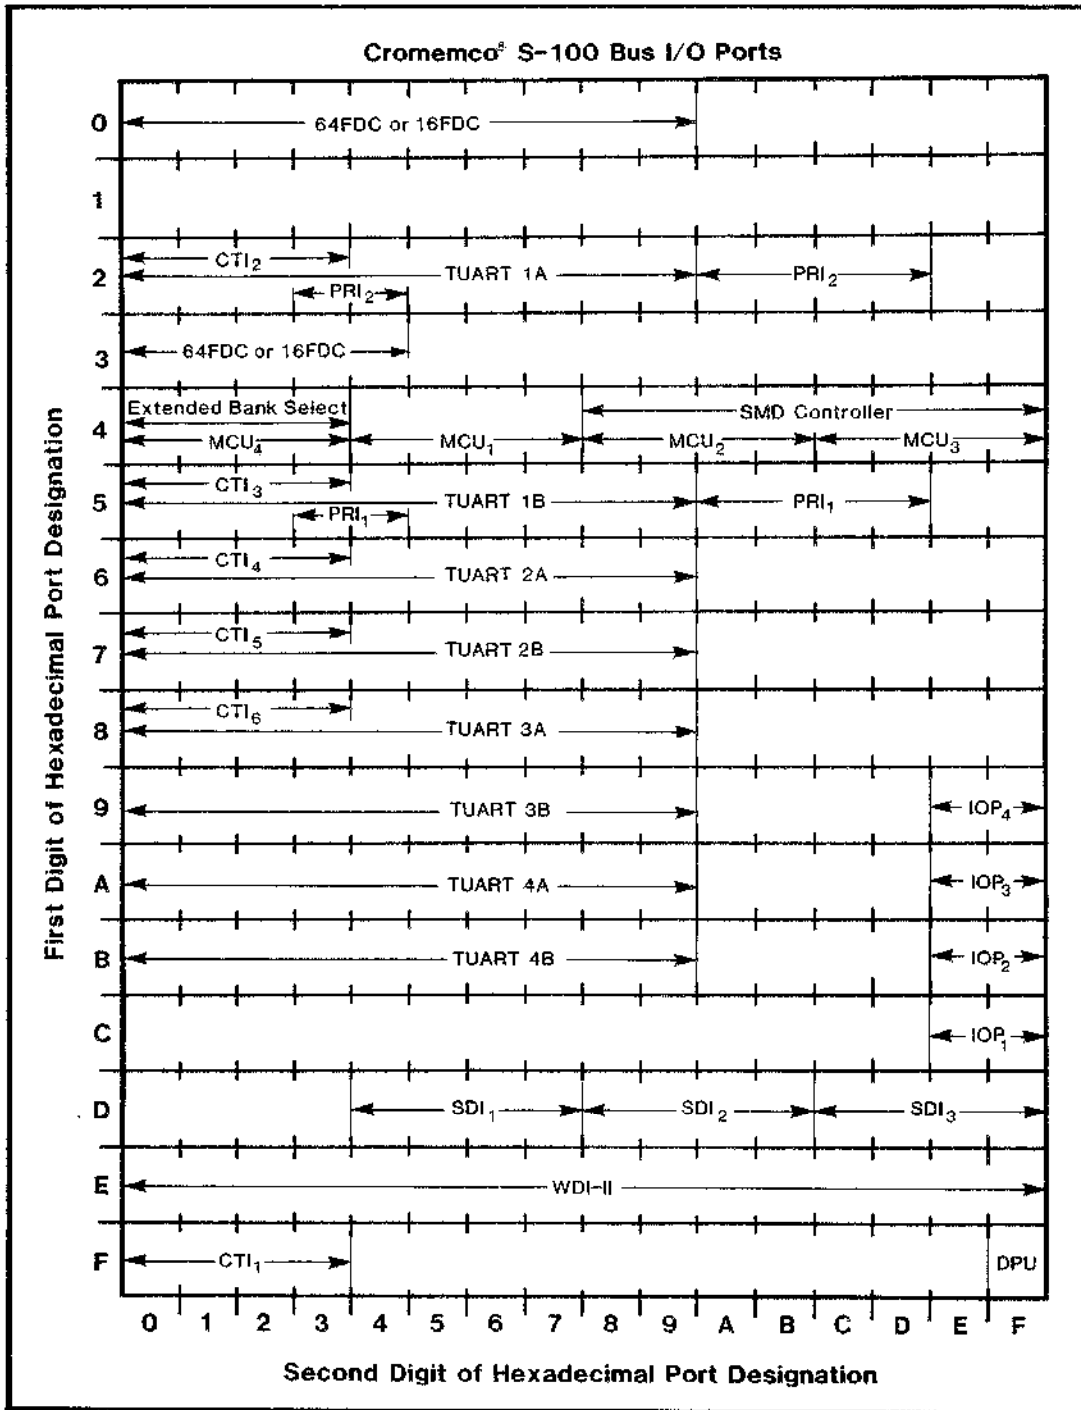

Figure 6-1: S-100 BUS I/O MAP FOR CROMIX BOARDS
Many of the board switch and jumper options described here, and earlier in Chapter 3, select **base I/O port addresses**. These base addresses place the boards in the S-100 Bus I/O map where the Cromix device drivers expect to find them. The proper switch settings result in the I/O map shown in Figure 6-1. Notice that I/O port assignments for some boards overlap. For example, board PRI 1 spans I/O addresses 53h, 54h, and 5Ah through 5Dh, while channel B of board TU-ART 1 spans I/O addresses 50h through 59h. In such cases, only one of the two
2. From the **qtty**, **mtty**, and **qslpt** entries in Appendix A, determine the correct S-100 base I/O address for the IOP board (IOP 1 is mapped at CEh, IOP 2 at BEh, IOP 3 at AEh, and IOP 4 at 9Eh -- see Figure 6-1).
1. From the **tty**, **lpt**, and **slpt** entries in Appendix A, determine the correct S-100 base I/O address for each TU-ART channel (A and B). If you are also using a PRI board in your system, do **not** assign the PRI and TU-ART boards overlapping I/O addresses (see Figure 6-1).
1. From the **lpt** and **typ** entries in Appendix A, determine the correct S-100 base I/O address for the PRI board. If you are also using a TU-ART board in your system, do not assign the PRI and TU-ART boards overlapping I/O addresses (see Figure 6-1).